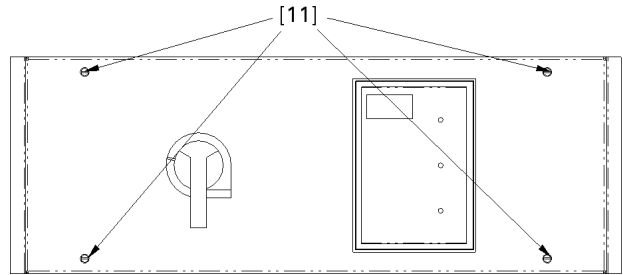

Figure 12. Mounting the filler plate assembly on the supports.
8. Mount the filler plate assembly to the filler supports, as shown in Figure 12. Secure with four 10-32 x 7/16" thread-forming screws [11] and tighten to 22 in.-lb.